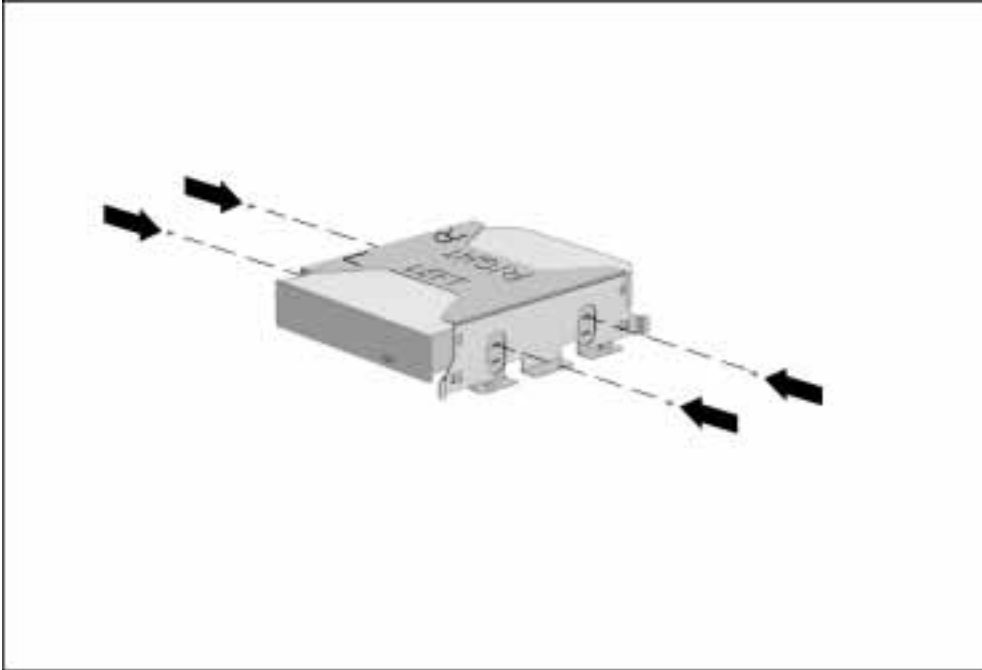

Figure 5-19. *Installing the Half-Height Drive Screws*
6. Install the screws securing the half-height drive to the drive cage (Figure 5-19).